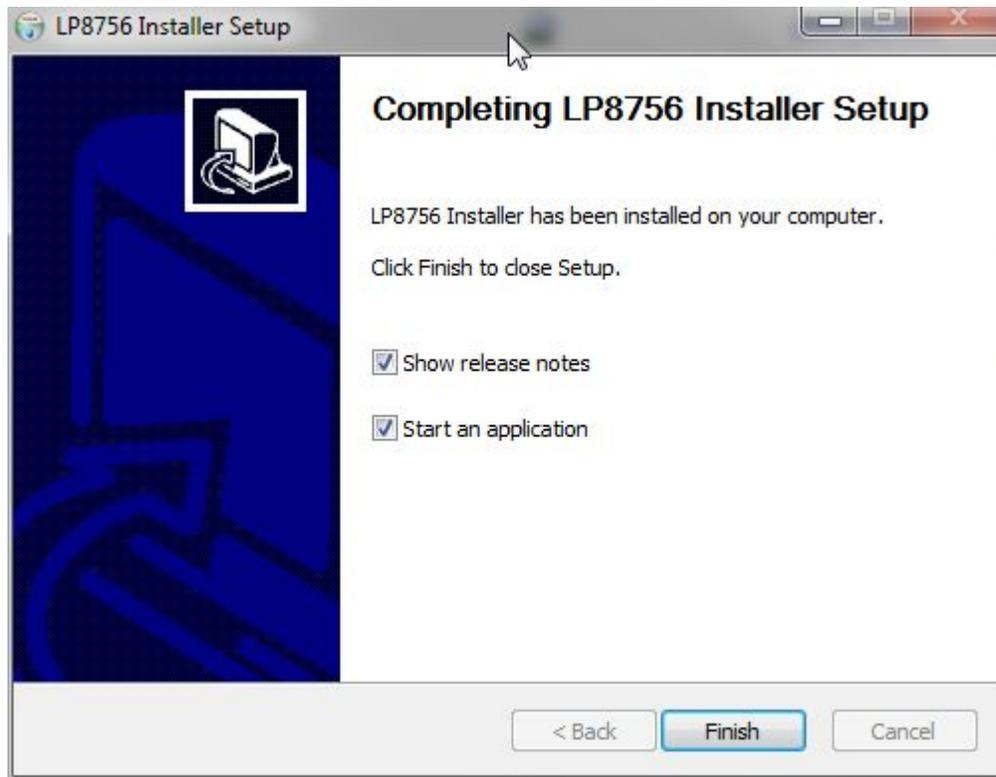

Figure 5. LP8756 Installation Complete
6. Installer prompts when installation is complete (see Figure 5).